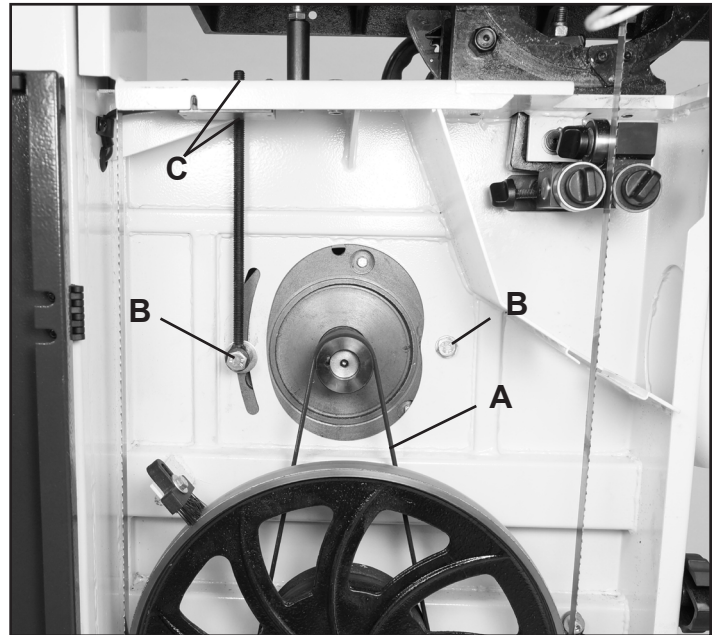

FIGURE 39
Check the Drive Belt (#16F, FIG. 39, A) tension with thumb pressure. The drive belt should not give more than 3/8" TO 1/2" in the center. DO NOT over tension the belt as this can put excessive, damaging pressure on the belt, pulleys and motor. Fig. 40.
2. Loosen the Hex Nut on the top of the Motor Pulling Rod (#45A, Fig. 39, C). The motor should now be loose to move downward for adjusting the belt.